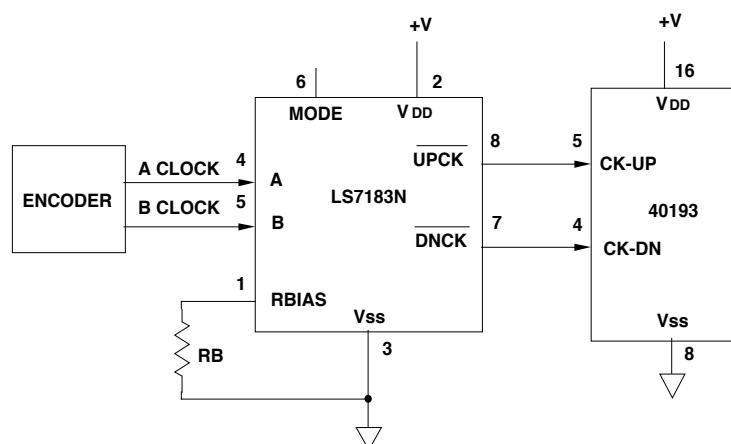

FIGURE 6A. TYPICAL APPLICATION FOR LS7183N in x4 MODE
- Interface incremental encoders to Up / Down Counters (See Figure 6A and Figure 6B)